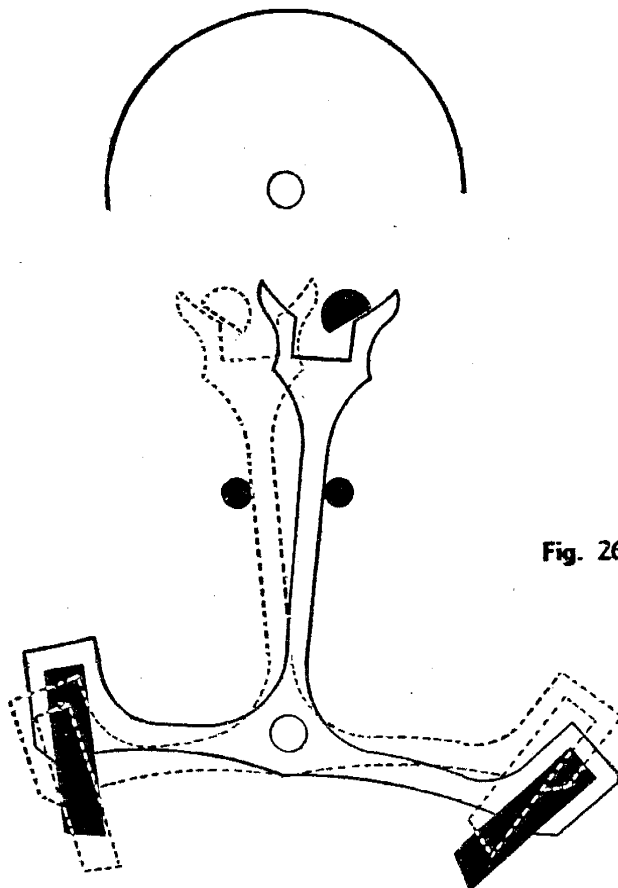

Fig. 26-3
4. Turn in the opposite banking pin until the roller jewel will just pass by the opposite corner of the fork, figure 26-3.